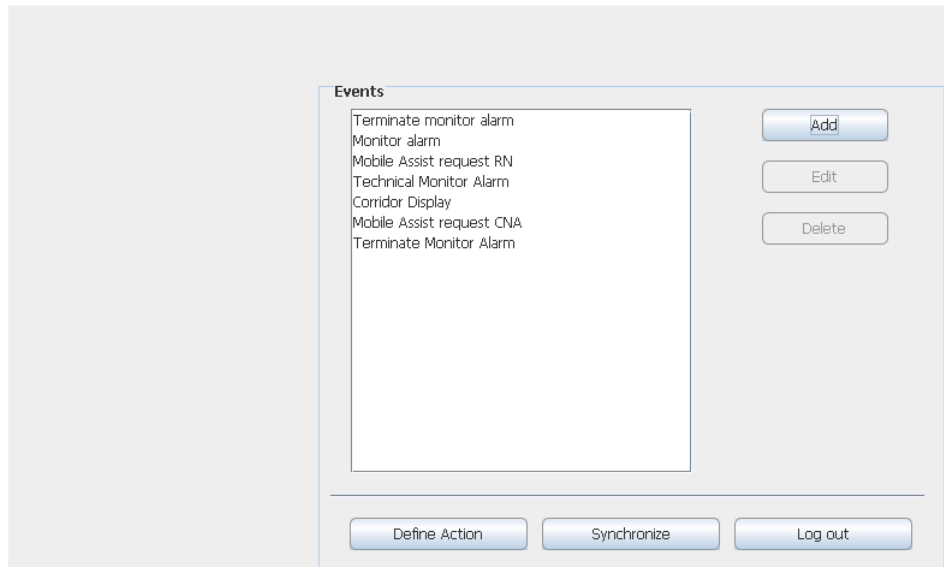

Figure 63. This example shows an added Terminate Event name.
- 1 Mark the Event that shall be terminated, see figure 63, and click "Edit".